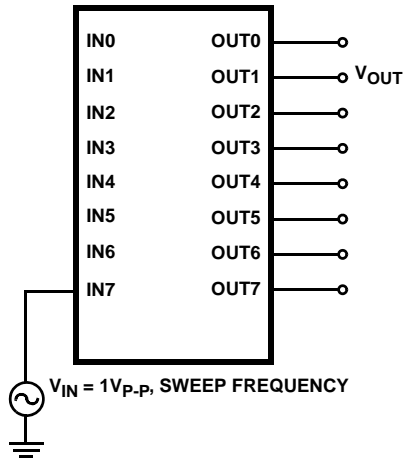
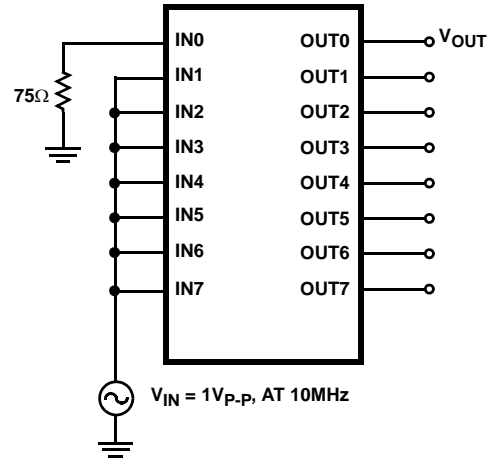

FIGURE 6. -3dB BANDWIDTH (NOTES 7-10)
FIGURE 9. ALL HOSTILE CROSSTALK (NOTES 10, 15, 17-19)
- See AC Test Circuits (Figure 6 through Figure 9).